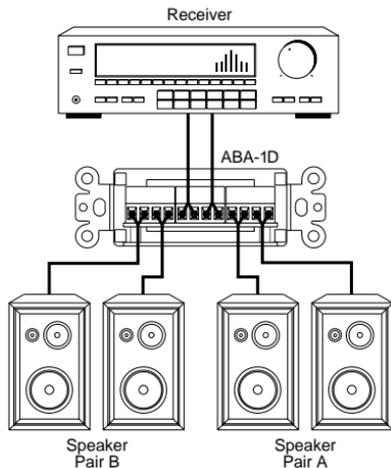

Figure 3
3. Make the connections to the ABA-1D. Strip $\frac{1}{4}$ " of insulation from the end of each wire. Tightly twist the end of each wire until there are no frayed ends. Insert each wire into the appropriate hole on the connector blocks; secure the wiring to the connectors by tightening the small connector screws. Be certain that proper phasing is observed—connect the positive terminals on the ABA-1D to the positive terminals on the amplifiers and speakers and the negative terminals on the ABA-1D to the negative terminals on the amplifier and speakers. See (Figure 3).